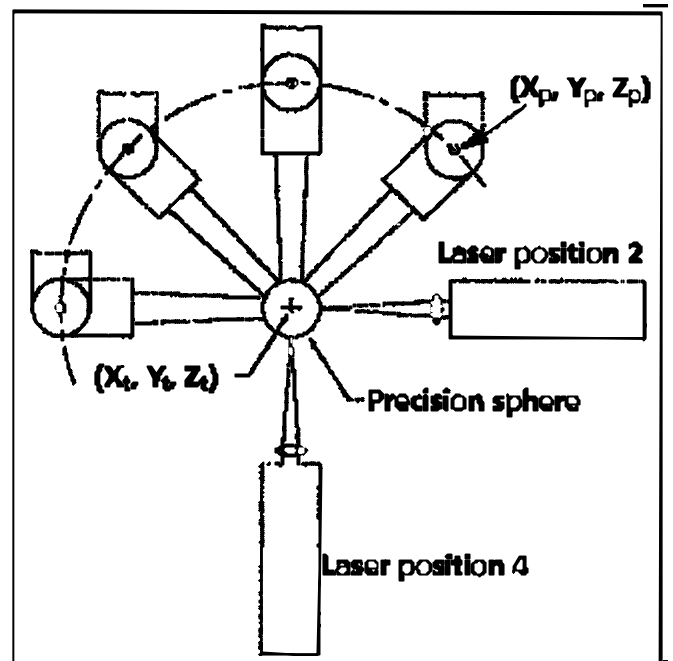

Figure 3. Schematics of a 5-axis motion with the center of the precision sphere, representing center of tool tip, at a fixed position.
Step 3-Dynamic measurement of A and B (rotational) axes uses various tool paths to determine tool tip positioning errors with a non-contact spindle tester. Tool tip positioning errors are measured dynamically along a fixed direction using various tool paths to determine angular, dynamic, and tool tip positioning errors. The spindle tester with precision sphere is utilized for these tests. First, the precision sphere is mounted in the spindle. Then the laser head is mounted in a position corresponding to the test. The laser beam is aligned with a focus lens, focusing at and perpendicular to the surface of the precision sphere. (Figure 3)
The laser head is mounted at position 3 (see figure 3). Starting position is $Y_p = Z_p = A = B = 0$,